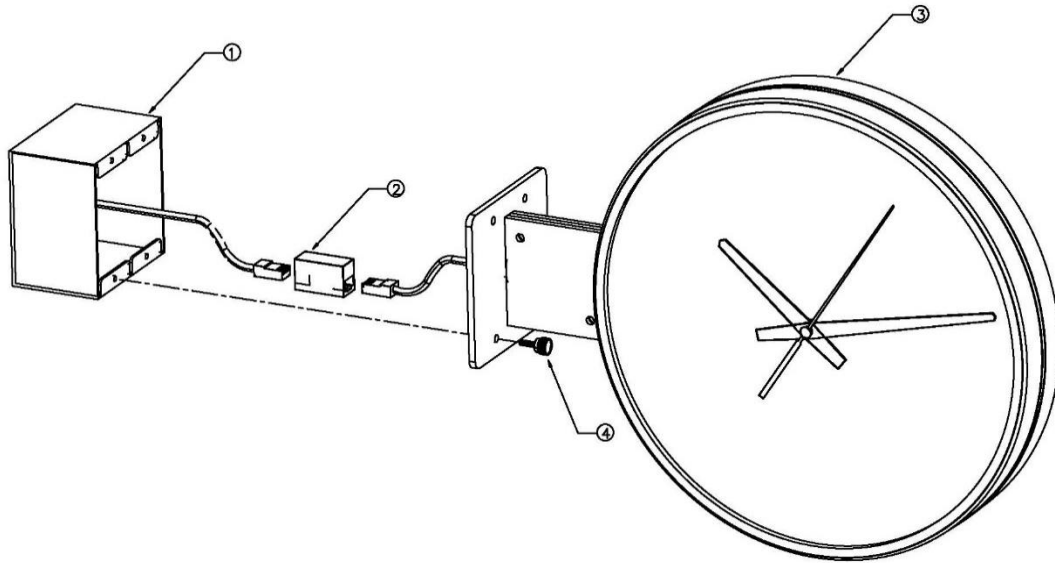

Figure 3: Analog Clock Double Mount Assembly
2. Mount a solid masonry junction box, two gang size, (item 1 in Figure 3) to the stud or post in accordance with local regulations.
4. Plug the data cable into the connector (item 2 in Figure 3).
5. Mount the clock assembly (item 3 in Figure 3) to studs on the junction box and secure the unit with the knurled screws provided (item 4 in Figure 3).